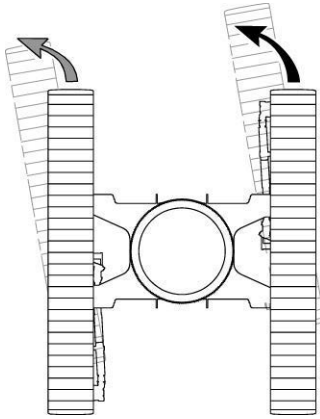

Figure 3-29. Travel Left (gradual turn)
11. To make a GRADUAL LEFT TURN (Figure 3-29), move both crawler handles to front from the neutral position. Move the right crawler control handle farther to the front than the left crawler handle. The right crawler will turn faster than left crawler.